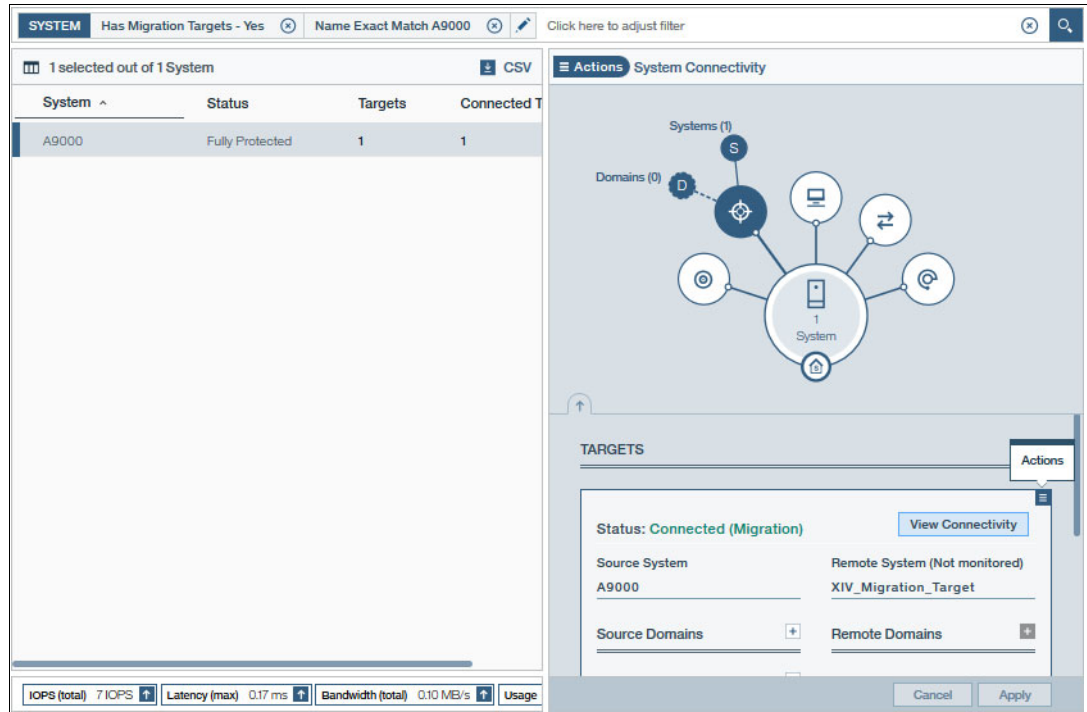
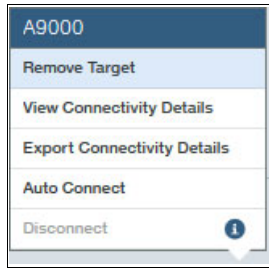

Figure 4-32 Actions Menu in the System Connectivity window
Figure 4-34 Removing migration Target
1. Select **Actions** → **Targets** → **View/Modify Targets** → **Actions Menu** of the migration target XIV_Migration_Target, as shown in Figure 4-32.
- Using the same action menu as shown in Figure 4-32 on page 130, select Remove Target, as shown in Figure 4-34.